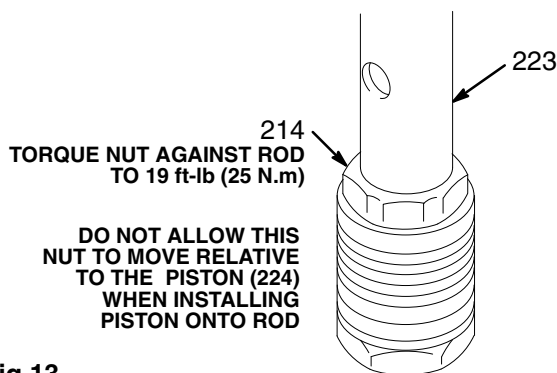

Fig 13
4. Torque the nut (214) against the rod (223) to 19 ft-lb (25 N.m). Use two wrenches to maintain the alignment as mentioned in the **NOTE**. See Fig 13.